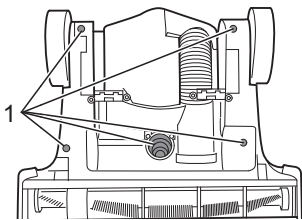
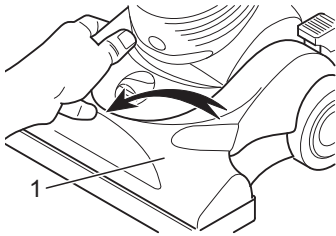

Fig. 27
Fig. 28
5. Unscrew the 5 fastening screws (Fig. 27/1) on the upper brushing foot cover (Fig. 28/1).
7. Carefully remove the brushing foot cover (Fig. 28/1).
15. Assemble the brushing foot cover (Fig. 28/1).
17. Secure the 5 fastening screws on the brushing foot cover (Fig. 28/1).